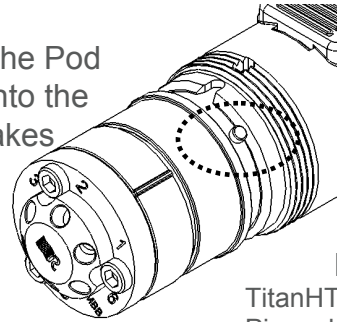

Figure 5
b. While lightly pressing, rotate the Pod until the Pod Union slips further into the Actuator and the Clocking Pin makes contact with the Actuator. These parts will only align one way (see Fig. 5)